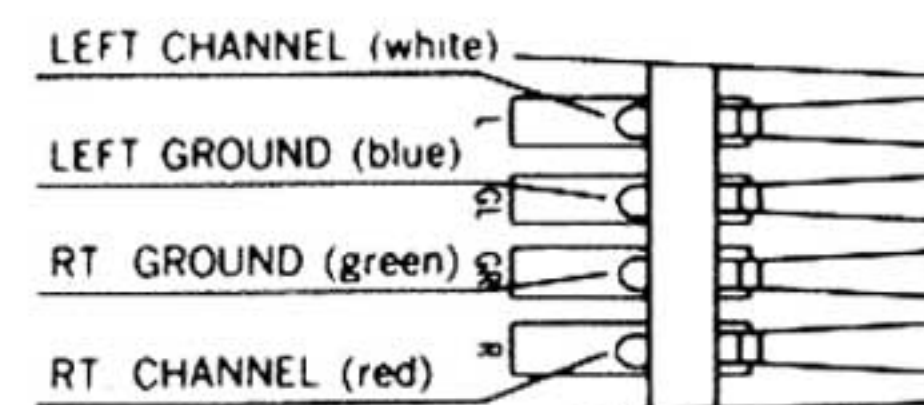

Fig. 13. Cartridge lead connections.
4. Connect each lead on the cartridge holder to its corresponding pin on the cartridge. Each lead is color-coded as shown in Fig. 13.